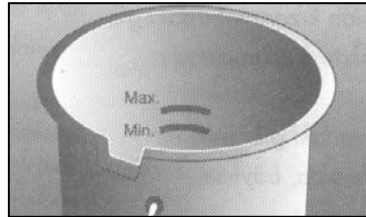

Fig. 9
- The oil level must always be maintained between the minimum (11 cup) and maximum (13 cup) levels marked inside the oil container (approx. 2.5 liters). Check oil level before each use. For best results, keep the oil close to the maximum level. Fig. 9